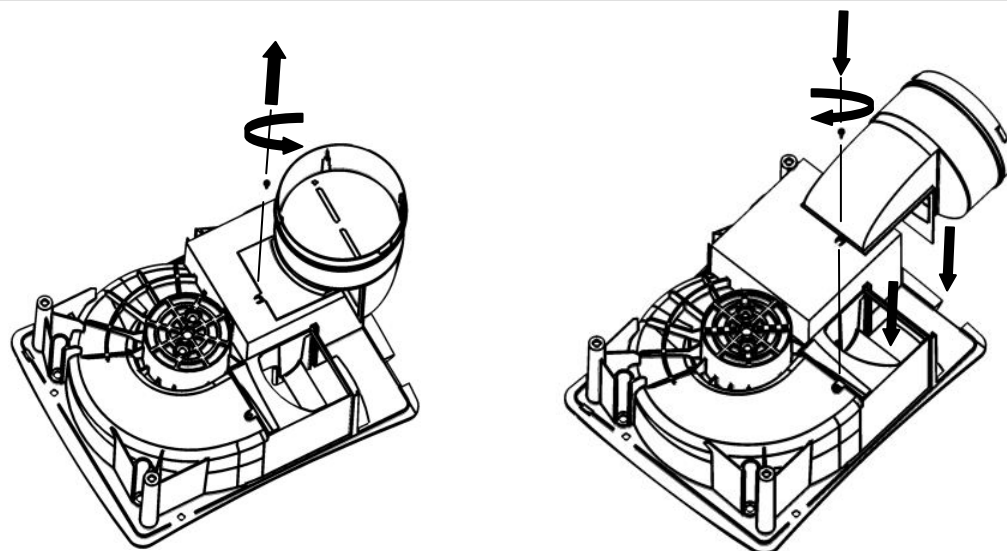

Fig. 5.
4. Remove the Skirt and pass the supplied screw fully through the flange of the base housing. Then attach the 3 supplied Panel Clips (Fig 5). and partially screw into place until they are properly retained (allowing enough gap for the panel thickness).